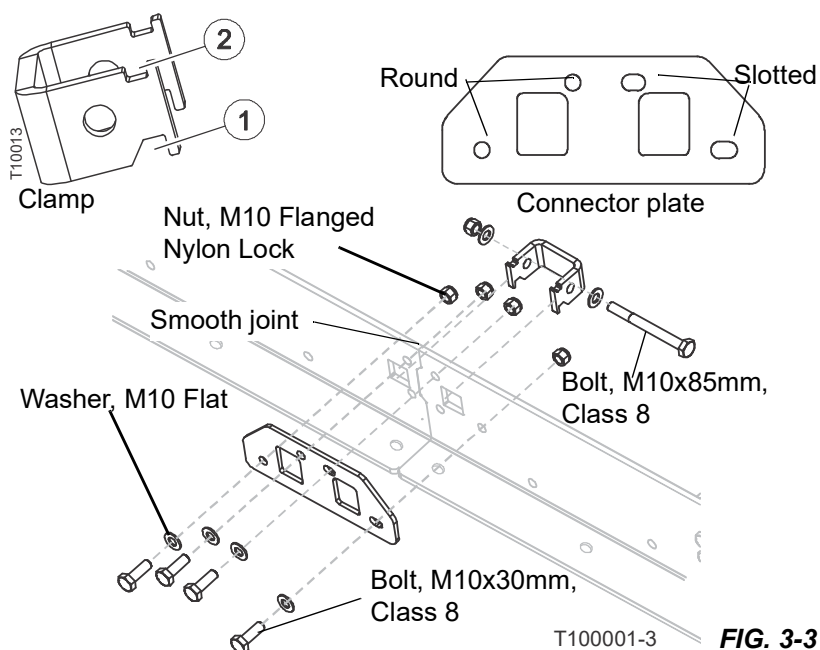

FIG. 3-3
1. Connect the bed sections using a connecting plate, a clamp, and M10x30mm bolts and hardware from the Bed Kit bag as shown in Fig. 3-3.